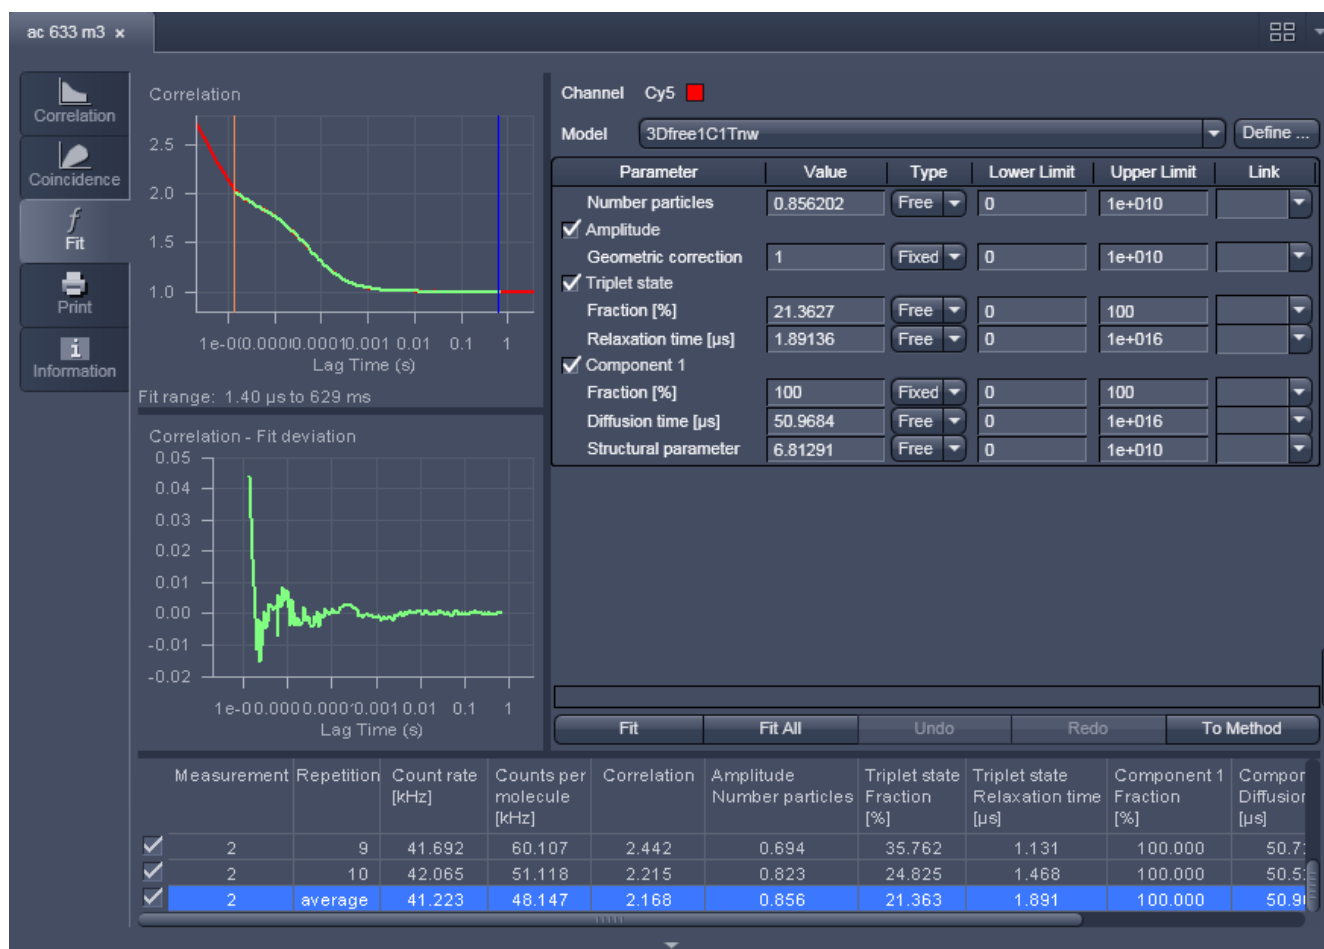

Fig. 375 Fit diagram panel for correlation analysis
- Click on the **Fit** tab to activate the **Fit** display mode (Fig. 375).
For fitting to a correlation model the upper graph (Fig. 375) shows the **Correlation  $G(\tau)$  Fit diagram** (correlation plotted versus the correlation time) with the overlaid fit graph. It also displays the fit range defined by the red (start value) and the blue (end value) bars. The lower **Fit deviation** curve depicts the fit residuals. If an experiment is loaded for which no fit has been conducted yet, only the measured **Correlation  $G(\tau)$**  curve is shown and no overlaid fit curve. **The Fit deviation** diagram will be empty.